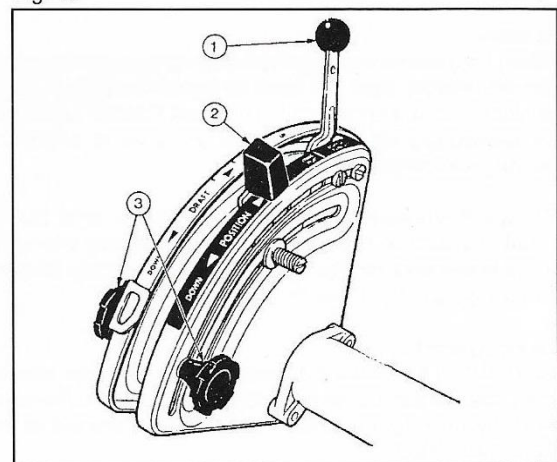

Fig. 44
**Draft control**, (1, Fig. 44) operates in the (Draft) range of the quadrant and is used to control the working depth of soil-engaging implements. The further the lever is moved to the DOWN position, the deeper the implement will tend to penetrate the ground and, conversely, the nearer the lever is to the UP mark, the shallower the implement will tend to work.
**Position control**, (2) operates on the (Position and Transport) and (Constant Pumping) range of the quadrant. The Red sector is used to control the working height of implements above the ground. When the lever is in the sector, the tractor's lift pump hydraulic power supplements the auxiliary system to give additional speed, operate trailer tipping.
**Adjustable stops**, Hand knobs (3) lock the adjustable stop in place when the desired working depth or height is reached.
**Selector control**, (if fitted) this control (4) selects and diverts the flow of hydraulic oil from the linkage pump to either the internal lift system (linkage position) or the auxiliary hydraulic control valves (external position). It also combines the linkage pump and the auxiliary pump to give increased flow for external equipment (when fitted).